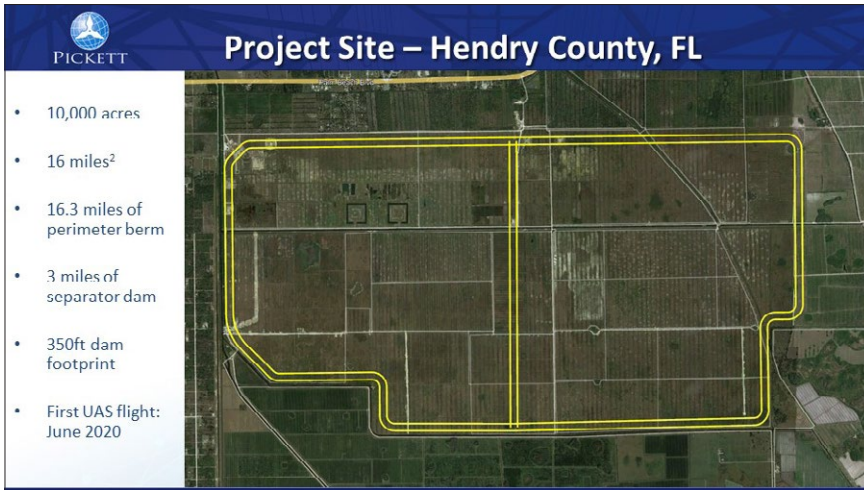

Figure 13: Pickett and Associates UAV imaging project in south Florida.
**Pickett and Associates:** Craig Emrick highlighted the multiple survey services Pickett and Associates offer and highlighted a UAV project in south Florida (Figure 13).